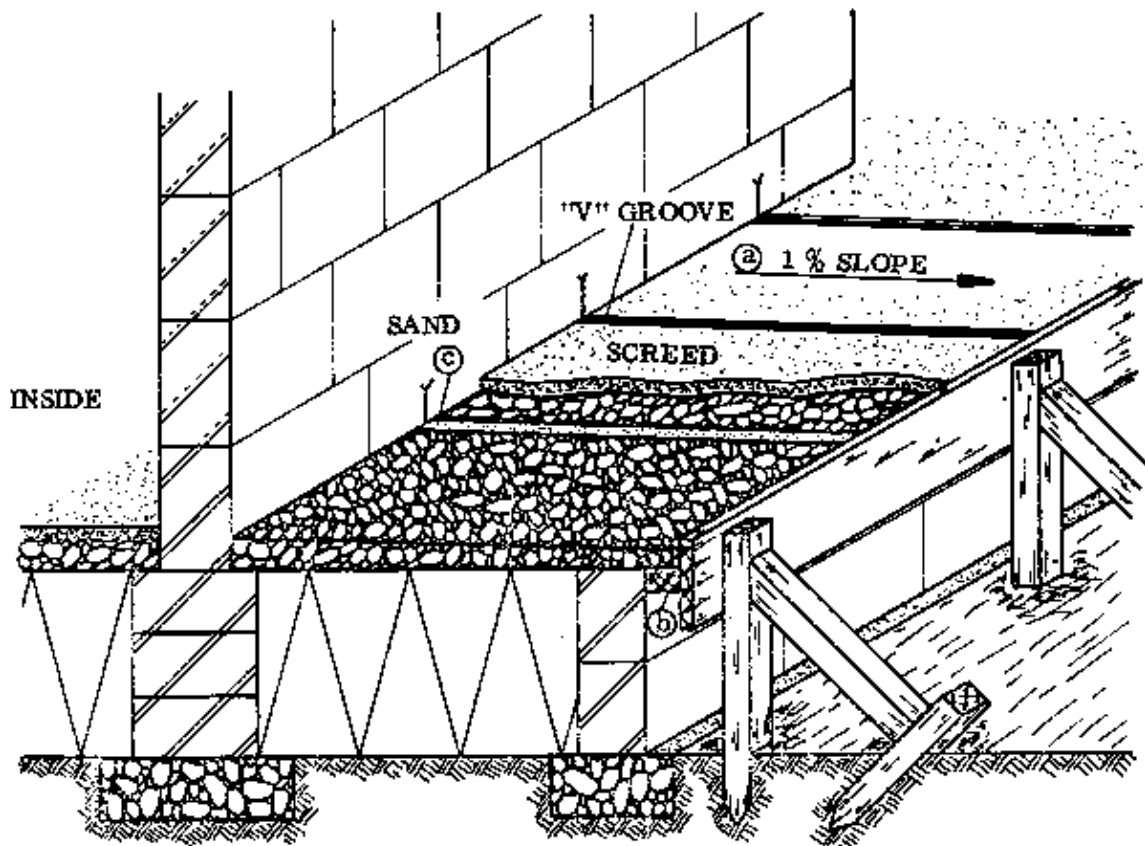

Fig. 1
– Usually the verandah floor is built with a small slope towards the outside so that rain water can run off quickly (Fig. 1, a).
– The verandah floor can have a projecting outside edge (Fig. 1, b).
– Because the floor is exposed to the sun, expansion gaps have to be made in it. This means that the floor must be made with the two-course method. (Fig. 1, c, and Basic Knowledge book, page 183).